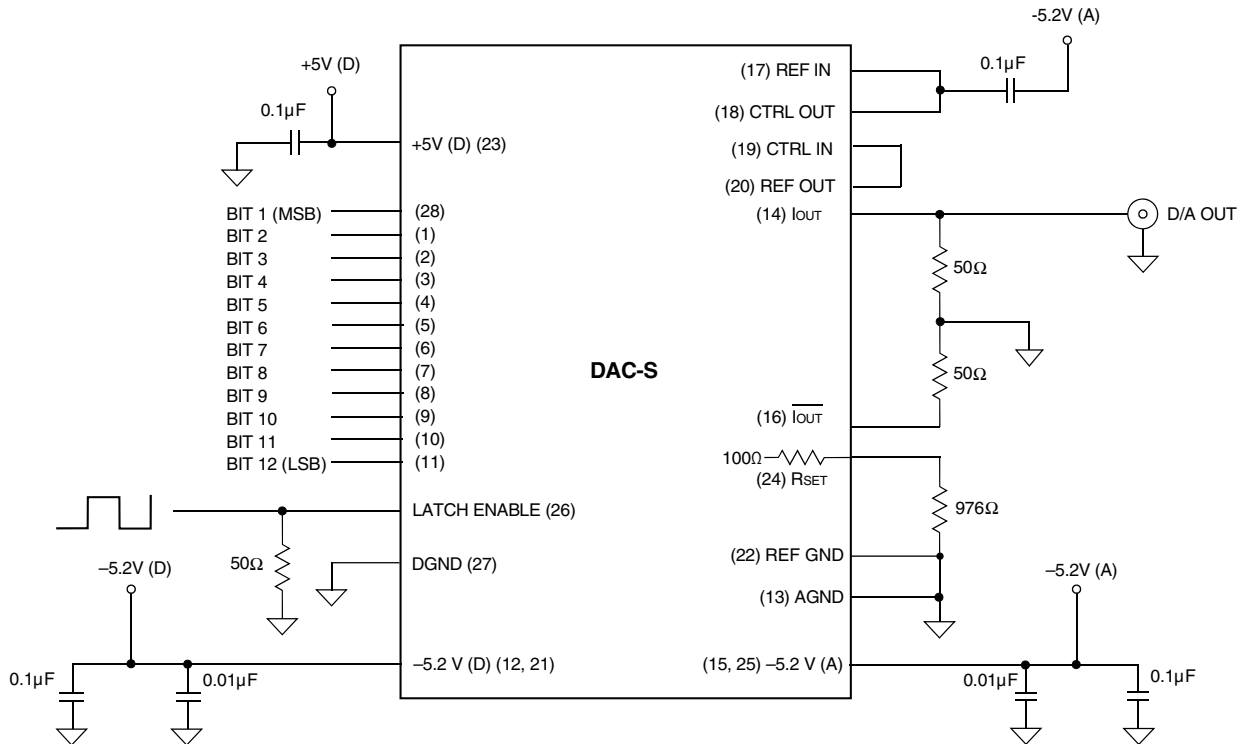

Figure 2. Typical Connection Diagram
The internal 12-bit register is updated on the rising edge of the Latch Enable (pin 26). To minimize reflections and noise at high clock speeds proper termination techniques should be used. In the PCB layout the clock runs should be kept as short as possible and have minimal loading. The PCB should employ a controlled characteristic line impedance (Z_0) of 50 Ohms. A shunt termination resistor, equal to Z_0 , should be placed as close to the CLOCK pin as possible, see Figure 2. The rise, fall and propagation delay times will be effected by the shunt termination resistor.
The sum of the two currents is always equal to the full scale current minus one LSB. See Table 1. The output can be converted to a voltage through a load resistor, typically 50 Ohms. Both current outputs should have the same load resistance value. See Figure 2. The output voltage generated is:
In order to reduce power supply noise separate -5.2V analog and digital power supplies should be used. The power supply lines should be bypassed with 0.1µF and 0.01µF ceramic capacitors placed as close to the -5.2V analog pins (15, 25) and digital pins (12, 21) as possible. The analog and digital power supply ground returns should be connected at one point as close to the power source as possible. The +5V supply pin (23) should be bypassed with a 0.1µF ceramic capacitor connected as close to the pin as possible. See Figure 2.
The internal reference is a -1.23V, typical, bandgap voltage reference. The internal reference is connected to Reference OUT (REF OUT, pin 20) and the internal control Amplifier (CTRL IN, pin 19). The control Amplifier OUT (CTRL OUT, pin 18) should be connected to Reference IN (REF IN, pin 17) and to -5.2V (pin 15) Analog Supply through a 0.1µF ceramic capacitor (as shown in figure 2) in order to improve the settling time This reduces switching noise and improves output settling time. The Full Scale Output Current, $\overline{I_{OUT}}$ (pin 14) and I_{OUT} (pin 16), is controlled by the REF OUT (pin 20) voltage and the RSET (pin 24) resistor through the following equation: